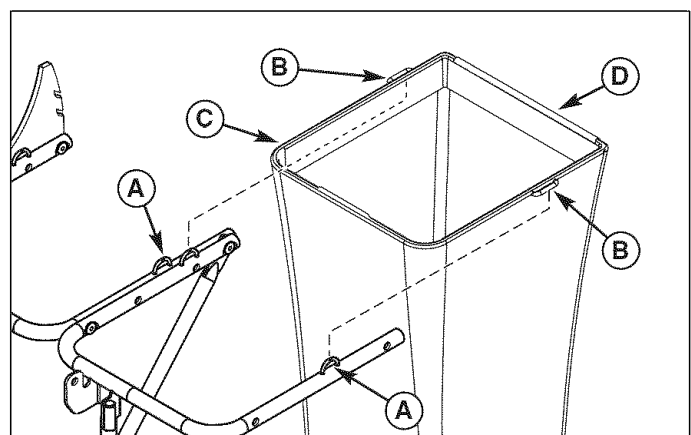

Figure 11. Bag Installation
1. Install bag (C, Figure 11) with white bar (C) toward the rear. Set bag hoops (B) on bag support hoops (A) as shown. Repeat for other side.